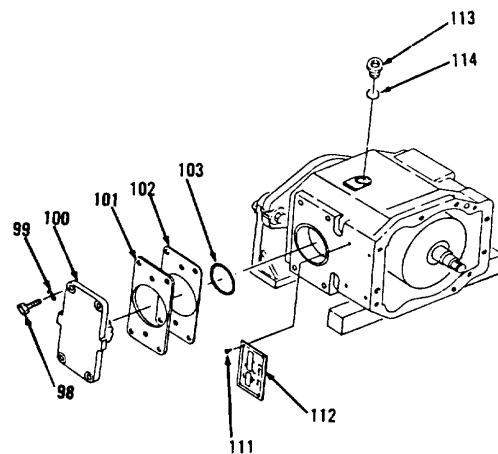

Figure 10-58.
43. Install two new preformed packings (114) and two plugs (113, Figure 10-58).
44. Install plate (112) and four screws (111).
45. Lubricate two new preformed packings (103) with clean hydraulic fluid.
46. Install two new preformed packings (103), the right amount of shim(s) (102 and 101), two covers (100), eight lockwashers (99) and bolts (98).